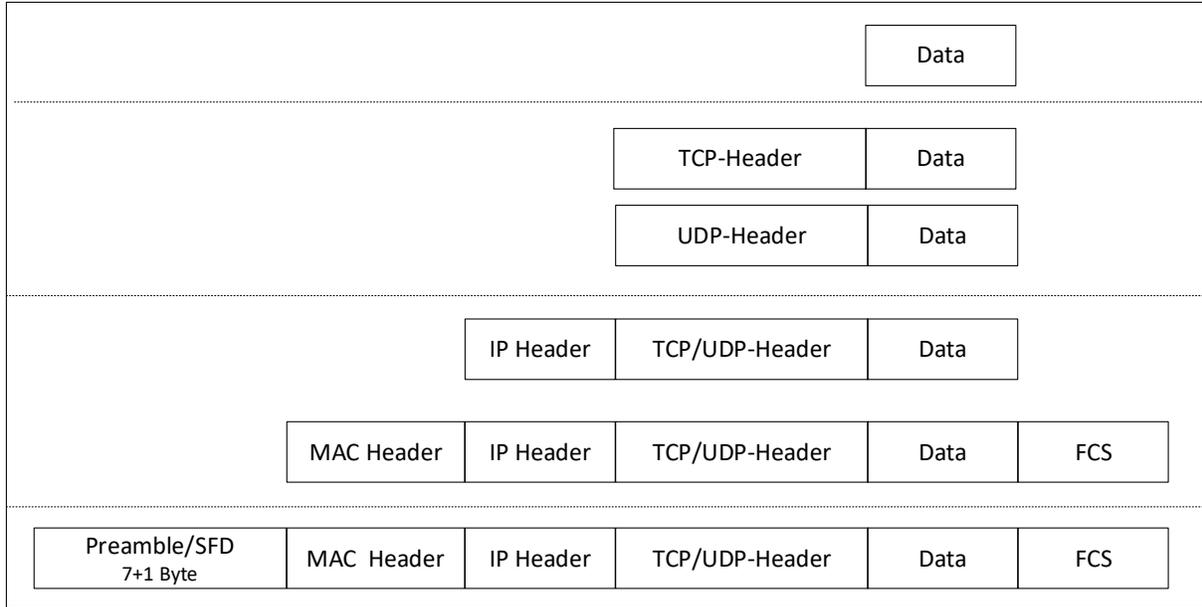

Figure 4.9. Ethernet Frame Format with IP and UDP Header
- IP Header: This header contains many fields with information of IPv4, as shown in Figure 4.9.